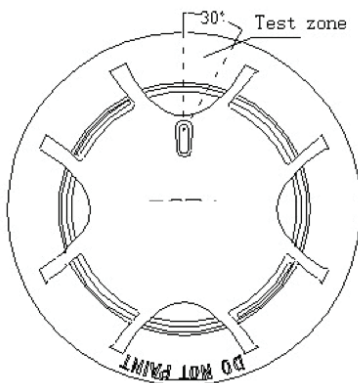

FIGURE 6
- (1) Reed switch testing - Place the commission tool on the testing area of the detector as shown in Fig. 6, hold for several seconds until the detector is in alarms.
- (2) Smoke test - Apply the detector smoke tester to the detector until it alarms.